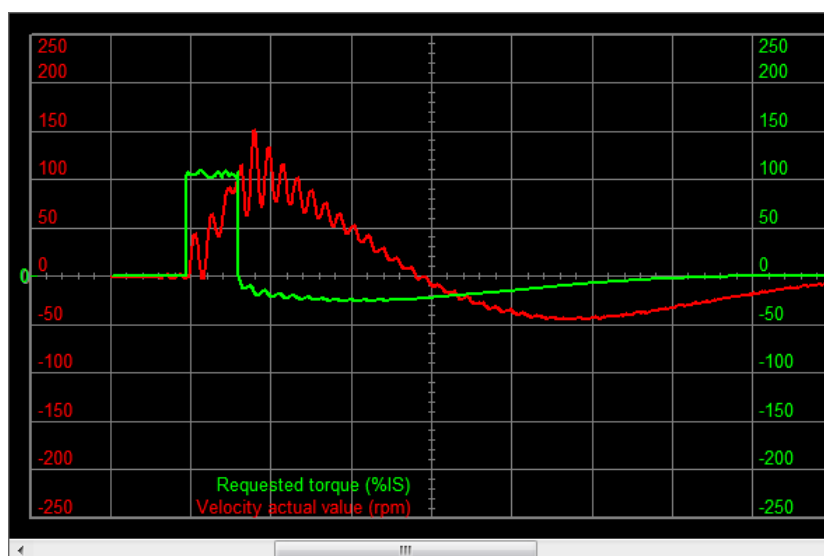

Figure 19.10. Example of a not valid estimation, with not rigid mechanical transmission.
- At last, if the stop presents a behaviour similar to the one that's reported in *Figure 19.10*, so with wide and persistent vibrations, the system is unstable and it has to be stabilized (see the points 3. *System stabilisation* and 4. *Filters* of the *Detailed Tuning Guide*).